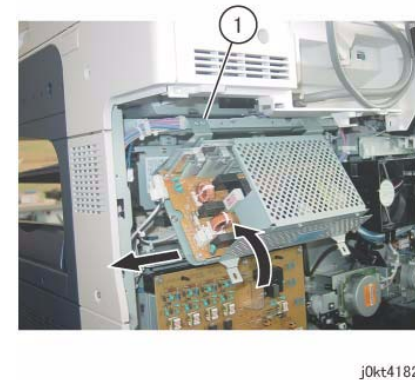

Figure 3 Remove the Sub LVPS
4. Remove the Sub LVPS. (Figure 3)